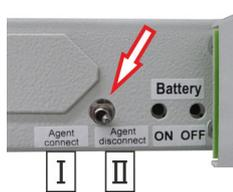

Fig. 18: Blocking switch
3. ▶ Blocking the system: Switch the blocking switch (Fig. 18/arrow) to "Agent disconnect [blocked]" (Fig. 18/II).
Activating the system: Switch the blocking switch (Fig. 18/arrow) to "Agent connect [not blocked]" (Fig. 18/I).